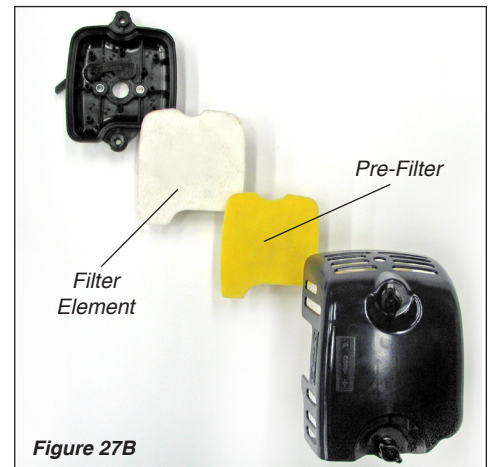

Figure 27B
2. Remove and inspect the pre-filter. If the pre-filter is torn or otherwise damaged, replace it with a new one. See Figure 27B.